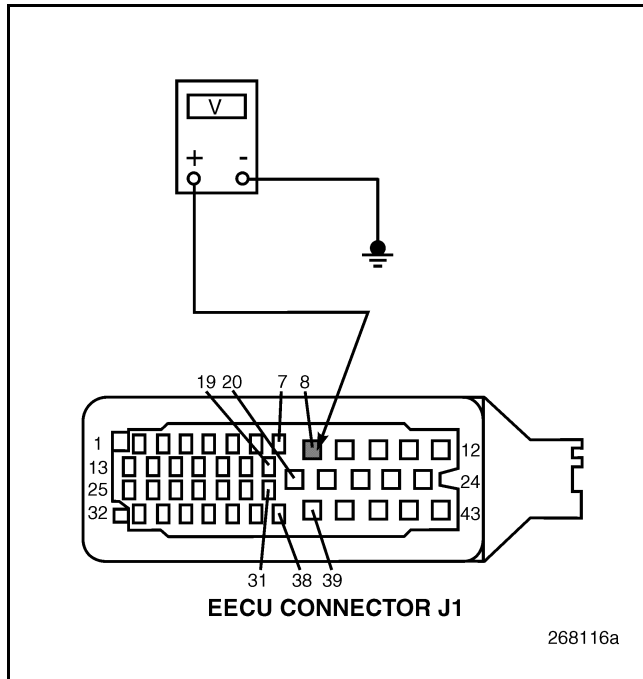

Figure 488
4. Measure the voltage between connector J1 pin 8 and a good ground (see Figure 488).